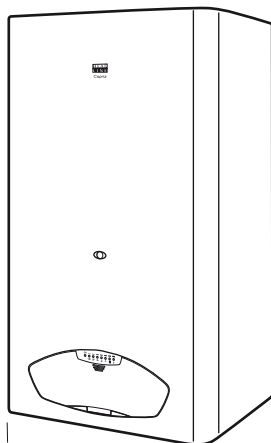

Figure 18.1
- Open the front panel by removing two screws at the bottom of the boiler, *Figure 18.1*.